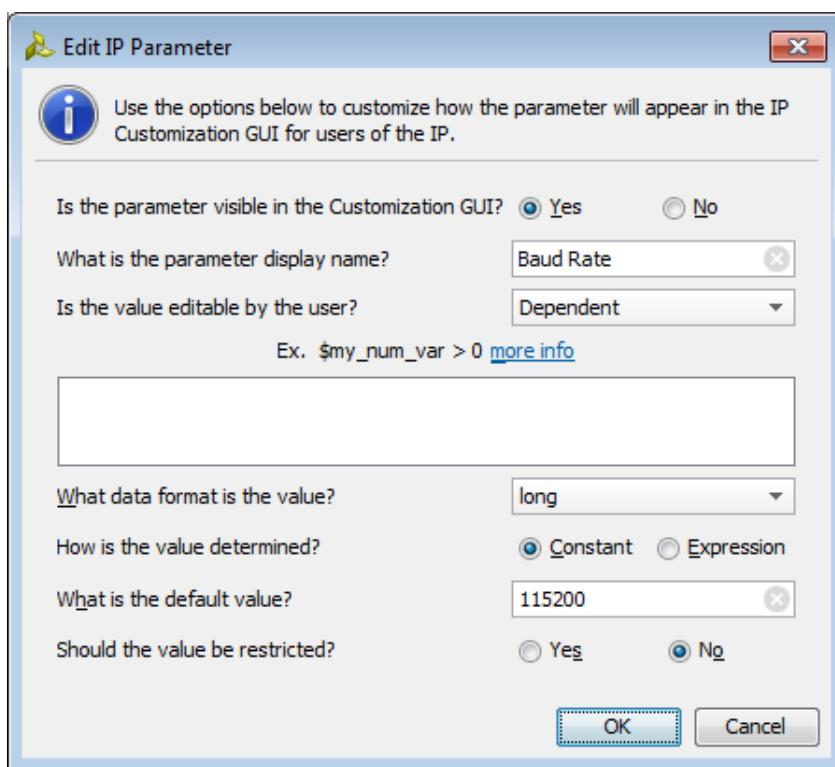

Figure 8-34: Edit IP Parameter Marked as Dependent
- When set to **Dependent**, a text box displays for you to provide Parameter Enable Expressions, as shown in Figure 8-34, page 101.